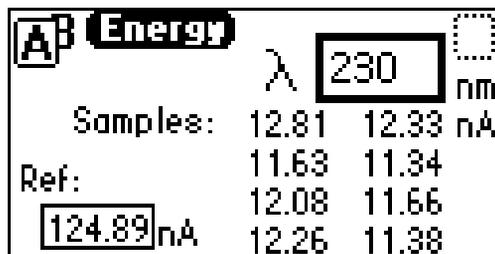

Figure 3-19 Sample and Reference Energy Diagnostic Screen
2. Press **DIAG 2** and select **Sample & ref energy**. The Sample and Reference Energy Diagnostic screen appears (Figure 3-19).